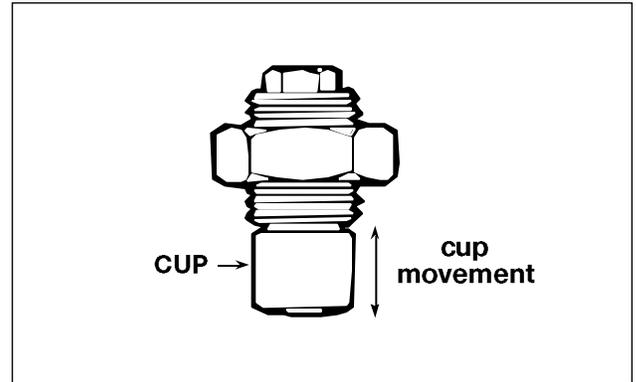

FIG. 20
2. Inspect the adjusting screw. The cup should move freely (Fig. 20). Approximately 10 lbs. (45 N) force is required to move the cup. The bottom center area on the cup should be free of nicks. Check the hole in the bottom of the cup to see that it is not plugged.